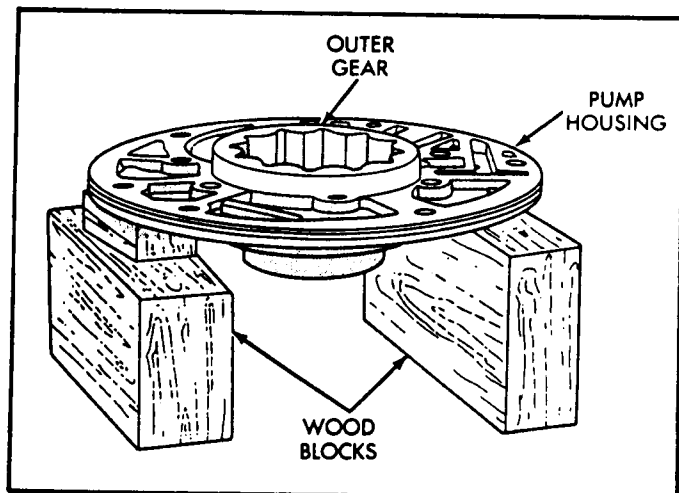

Figure 51
12. Support the pump body on wooden blocks as shown in Figure 51.
13. Install the outer pump gear into pump pocket (See Figure 51). The outer gear can be installed either side up.